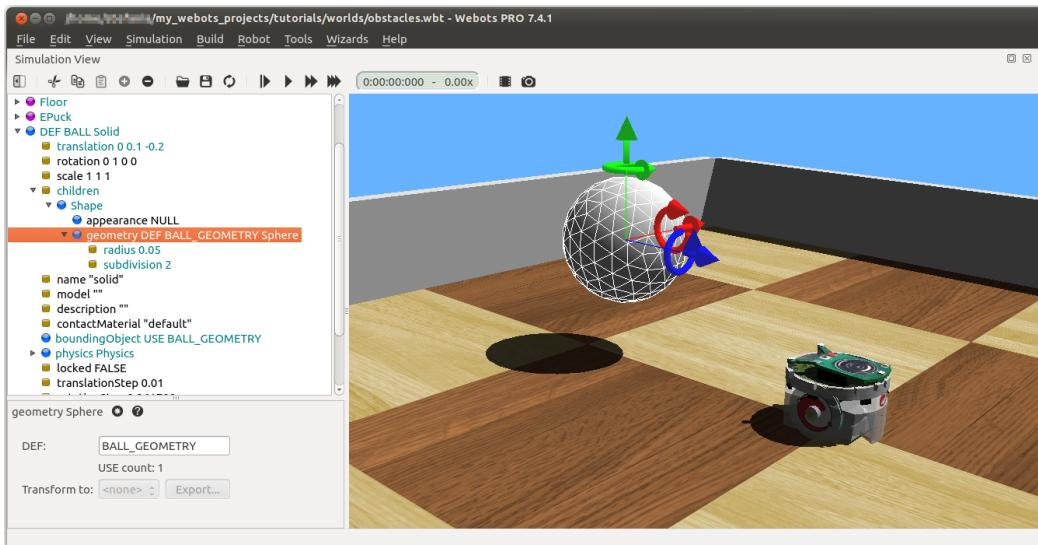

Figure 7.5: DEF-USE mechanism on the Sphere node called "BALL\_GEOMETRY".
*Select the first Sphere node (the child of the Shape) in the scene tree view. The field editor of the scene tree view allows you to enter the DEF string. Enter "BALL\_GEOMETRY". Select the boundingObject field (containing the second Sphere node), and delete it by using the **Reset to default** button. Then click on the **Add** button, and select the USE > BALL\_GEOMETRY in the dialog box. The result is shown in figure 7.5.*